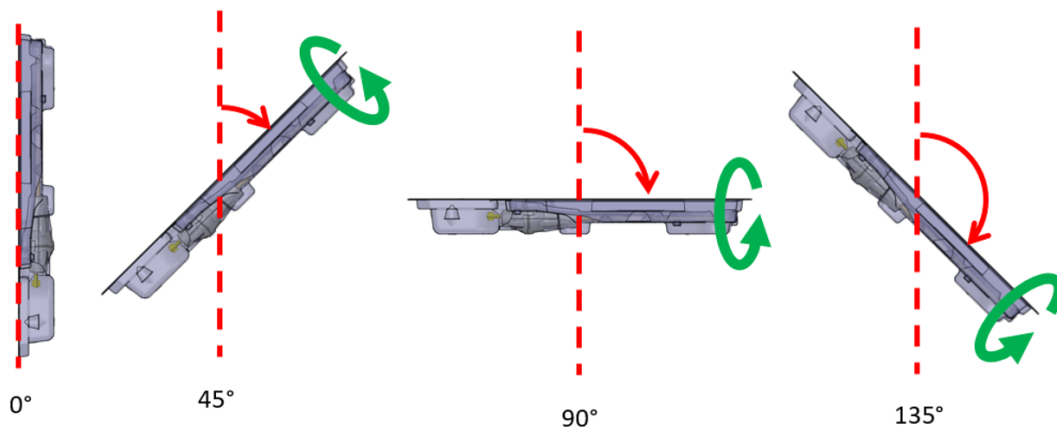

Figure 13: Recommended procedure for purging air from ultrasound applicator
- b. While the purging operation is on, hold the UA in its package—to keep the UA sterile, be careful not to touch the UA handle. Tip the package upwards in the 0° position, then tilt to approximately 45°, then 90°, and 135°. At each angle, slowly rotate the package approximately 360° and tap continuously along the packaging to dislodge any bubbles in the handle and shaft (Figure 13).